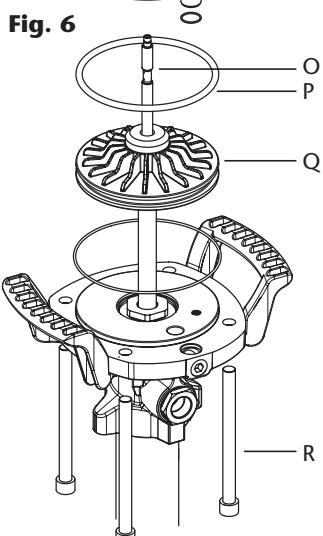

Fig. 6b
1. Unscrew the bolts (A) and remove the cap (B).
2. Unscrew the sensor sleeve (C).
3. With a manual clamp on the nut (D), pull the rod (O) outwards until its central recess appears (Fig. 6a). Then, with another manual clamp, grab the rod (O) on said recess to prevent sealing surface to be damaged, and unscrew the nut (D) (Fig. 6b).
4. Remove o-ring (E) and ring (F), and replace them with new ones later.
5. Unscrew the bolts (R). Pull the motor body (J) outwards to free it along with bridle (L).
6. Take away the gasket (G) and replace its seals (H) and (I).
7. Unscrew the bolts (M) and split the motor (J) from the bridle (L). Take away the washer (K) and replace the seal (H).
8. Take away the cylinder (50) while carefully holding the air piston (Q). Replace the piston seal (P).
9. Re-assemble in reverse order, applying thread locker in screws (M), nut (D) and sensor sleeve (C).